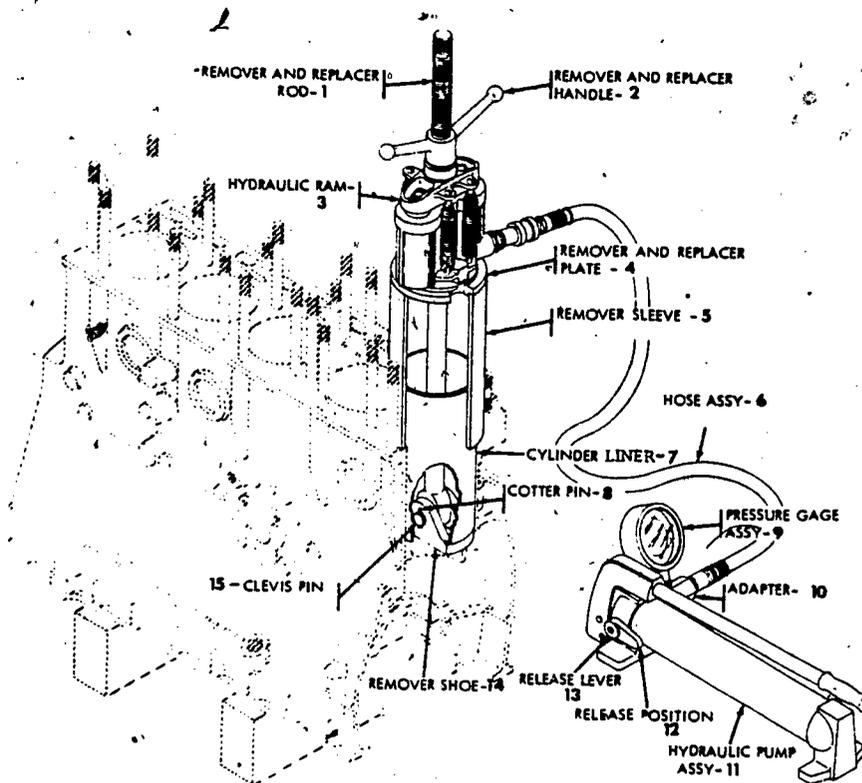

Fig 5-7. Cylinder liner remover and replacer kit showing position of shoe against liner during liner removal (sectional view).
To remove the defective liner (fig 5-7) (numbers in parens refer to fig 5-7), use the procedure outlined below. Assemble the remover and replacer rod (1) and remover shoe (14) and secure the clevis pin (15) and cotter pin (8). Insert the rod up through the cylinder liner, from the bottom of the crankcase; until the shoe seats in the bottom of the liner. With an assistant holding the rod and shoe in position, position the remover sleeve (5) over the liner to be removed.
Remove the cotter pin (8), the clevis pin (15), and the remover shoe (14), shown in figure 5-7, from the remover and replacer rod (1).
Caution: The pressure gage attached to the pump indicates pressure exerted for cylinder liner installation. If indicator needle moves into "danger zone" (red area), stop pumping action immediately and investigate the cause. If cylinder liner cannot be installed without the indicator needle entering the danger zone, remove the liner as directed in figure 5-7. Repeat the installation procedure using a different liner.